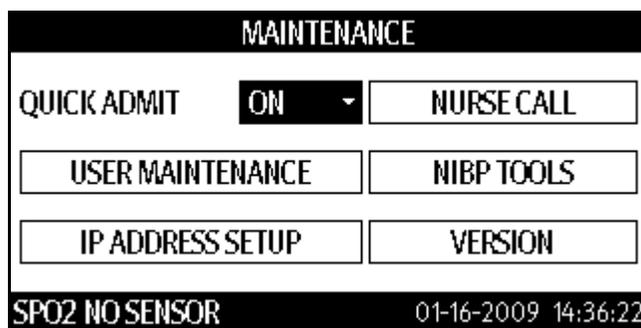

FIGURE 6-16 MAINTENANCE dialog
4. Once **MAINTENANCE** is highlighted, press  to display the **MAINTENANCE** dialog as shown in FIGURE 6-16.